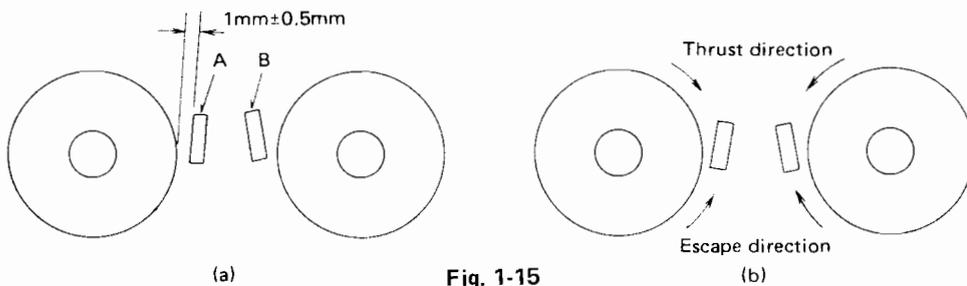

Fig. 1-15
2. With the plunger of the lock solenoid (L571) pulled in check to see that the clearance between the reel discs and brakes A and B in Fig. 1-15 (a) is $1\text{mm} \pm 0.5\text{mm}$.
5. Apply the torque meter to the reel disc. Allow the reel disc to rotate in the "thrust" direction shown in Fig. 1-15(b) and check for a meter indication of $0.5 \sim 0.7\text{kgcm}$ or more.
7. Allow the reel disc to rotate in the escape direction shown in Fig. 1-15(b) and check for a meter indication of 0.02kgcm or more.